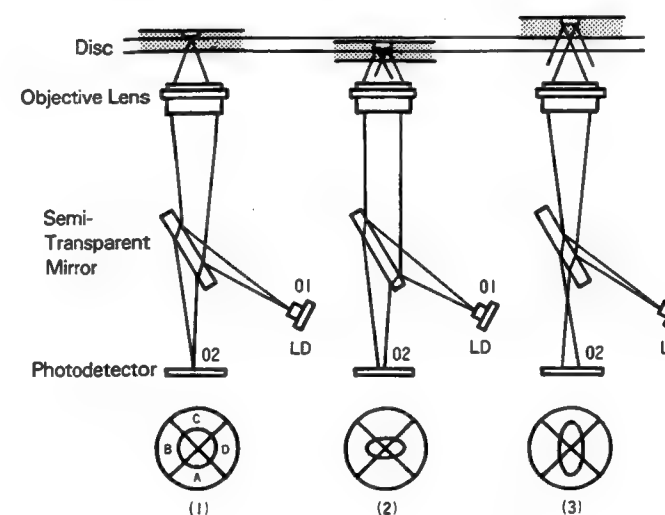
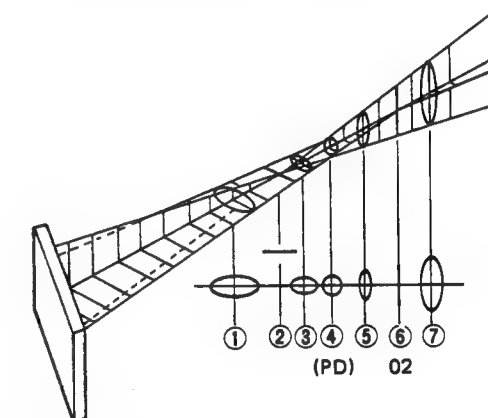
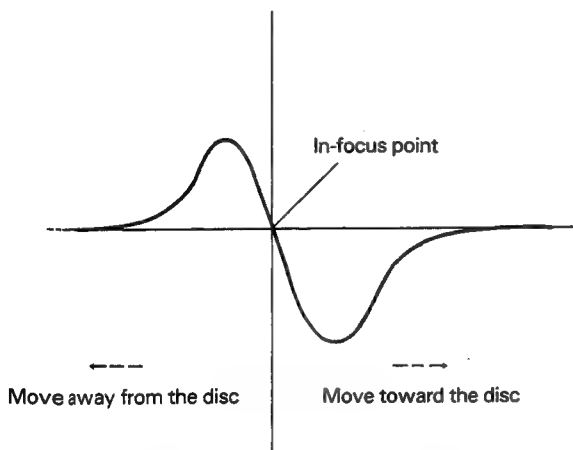

Fig. 12-3 Beam Focus on the Disc Surface
Fig. 12-4 Semi-Transparent Mirror
Fig. 12-5 The S-Shaped Curve
Fig. 12-3 shows how focus detection works. In (1), the light reflecting back through the objective lens forms a circle which touches all four photodetectors (labeled A through D) equally and signifies that the disc is in focus. The reflected pattern on the photodetectors forms an oval on the four photodetectors when there is a focus error. In (2), the disc is too close to the lens and in (3), the disc is too far. (The diffraction grating has been omitted from the figure for simplicity sake since it is not directly related to the focus signal and correction process.)
Fig. 12-4 displays the optical characteristics of the semi-transparent mirror. The lens affects only the vertical direction of the figures and not the lateral direction.
① through ⑦ in Fig. 12-4 show the beam shapes at varying distances from the semi-transparent mirror. Between the straight lines ② and ⑥ is the perfect circle ④. ⑥ corresponds to point (2) in Fig. 12-3. In order to make Fig. 12-4 coincide with Fig. 12-3 (1) to yield a circular beam shape, the photodetector must be set at ④. The beam shape in Fig. 12-3 (2) corresponds to a photodetector position in 12-4 that is relatively closer to the semi-transparent mirror, at about ③, with a horizontally elon-
gated oval shaped beam. Conversely, Fig. 12-3 (3) corresponds to a photodetector position at around ⑤ with a vertically elongated oval.
The possible beam shapes that hit the photodetector are shown in Fig. 12-3. The focus signal is derived by simple arithmetic based on the signals from the four photodetectors: $(A + C) - (B + D)$.
When the objective lens is too near or far from the disc track surface most of the light does not reflect back to the photodetector. When the light that reflects back to the photodetector hits each of the four photodetectors uniformly, the focus signal is 0. When the objective lens moves too far from the disc surface it reflects a vertically elongated oval beam pattern like that of ⑦ in Fig. 12-4 on the photodetectors. In terms of the arithmetic for the focus signal, $(A + C) > (B + D)$ and the focus signal is a plus figure. As the lens moves closer to the disc to correct focus, the beam shape reaches its peak (a vertical line) at ⑥ and the lens continues to move away from the disc surface until $(A + C) - (B + D) = 0$ and the beam reflects a perfect circle on the photodetectors. Conversely, when the objective lens is too close to disc surface, a horizontally elongated oval beam will fall on the photodetector. In terms of the focus signal $(A + C) < (B + D)$ is a minus figure. As the objective lens moves away from the disc, it passes the horizontal line peak at ② and continues until the focus signal is 0. Fig. 12-5 graphs the typical S-shaped curve derived from the $(A + C) - (B + D)$ focus signal.